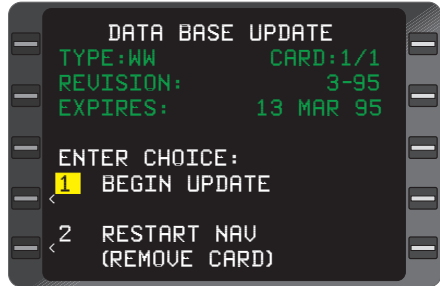

Figure 5-1
4. **ON** Key - **DEPRESS** to turn on system. Figure 5-1 appears.